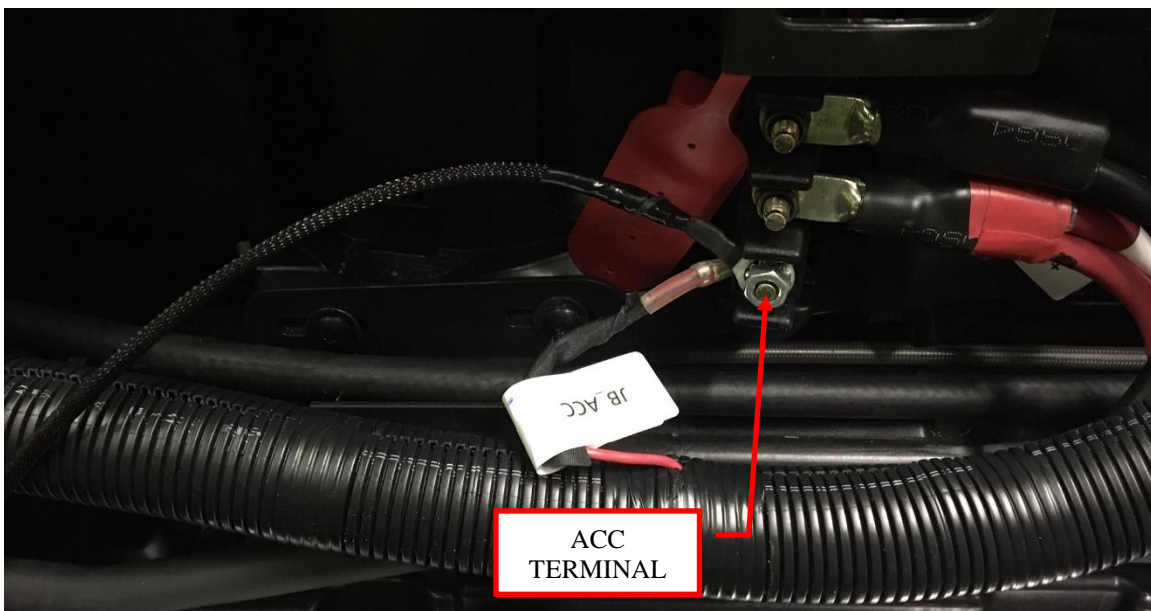

Figure 12: Connect to the ACC terminal.
11. Remove the protective rubber cover and connect the pink ignition wire to the terminal labeled “ACC” using the small washer and supplied M6 x 1.0 nut. Replace the rubber cover. See Figure 12.